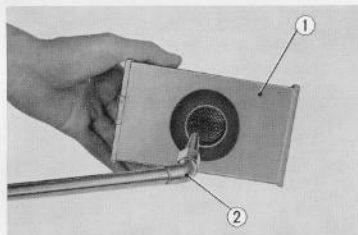

Fig. 5.15 Cleaning air cleaner element
- a. Tap the cleaner element lightly to loosen the dust and then blow dry compressed air from the inside or use a brush to remove the dust. (Fig. 5.15)